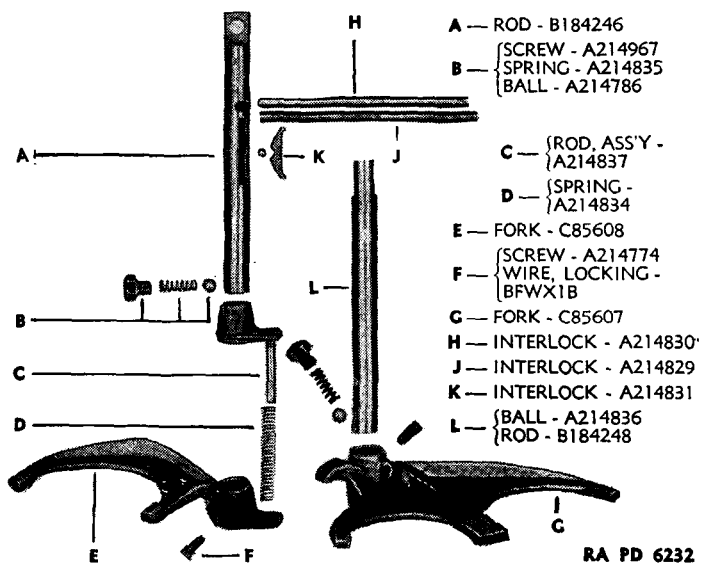

FIGURE 125.—Transfer case shifting mechanism, exploded.
(1) Separate transfer case from transmission. Proceed as outlined in step *c*(5) above.
(2) Remove shift rod cover and interlocks— $\frac{7}{16}$ -inch socket wrench. Remove three cap screws (BCAX1CA) and lock washers (BECX1G) holding transmission shift rod cover (B184294) to transfer case and remove cover and gasket (B184295) (fig. 76). Lift short first speed shift rod interlock (A214829) and long front drive shift rod interlock (A214830) out of holes in top of case (fig. 125).
(18) Remove front-drive shaft shift rod—cutting pliers, $\frac{7}{16}$ -inch square socket wrench, brass drift, hammer (or press). Remove locking wire and set screw (A214774) holding front-drive shaft shift fork (C85607) to shift rod (B184247) (figs. 125 and 126). Remove front-drive shaft shift rod rocker interlock (A214831) by pushing fork toward rear of case and pressing down on one end of interlock and lifting out of slot in shaft. Pull shaft out and lift the following out of case: shift fork, shift rod bracket (A214837),
(19) Remove direct- and underdrive-shift rod—cutting pliers, $\frac{7}{16}$ -inch square socket wrench. Cut locking wire and remove set screw (A214774) holding direct- and underdrive-shift fork (C85608) to shift rod (B184248) (figs. 125 and 126). Pull shaft out of case and lift fork out.
(20) Remove shift rod oil seal—brass drift, hammer. Drive direct- and underdrive-shift rod oil seal (A214842) out of case, if necessary to replace.